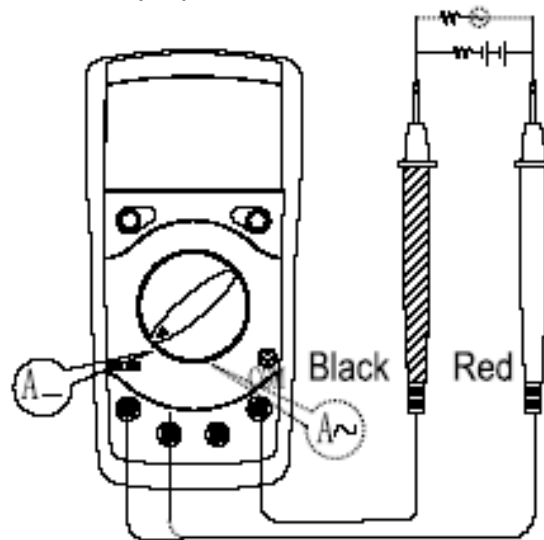

figure 4
C. DC CURRENT MEASUREMENT (SEE FIGURE 4)
D. AC CURRENT MEASUREMENT (SEE FIGURE 4 WITH DOTTED LINE)